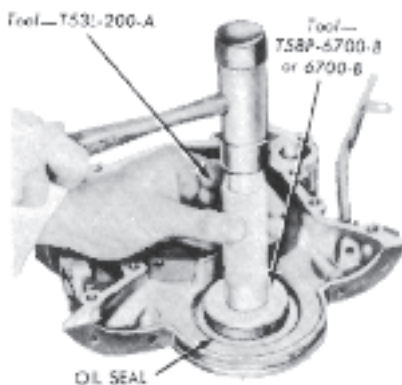

Fig. 27 Installing Crankshaft Front Oil Seal
1. Coat a new seal with grease, then install the seal in the cover. Drive the seal in until it is fully seated in the recess (Fig. 27). Check the seal after installation to be sure the spring is properly positioned in the seal.